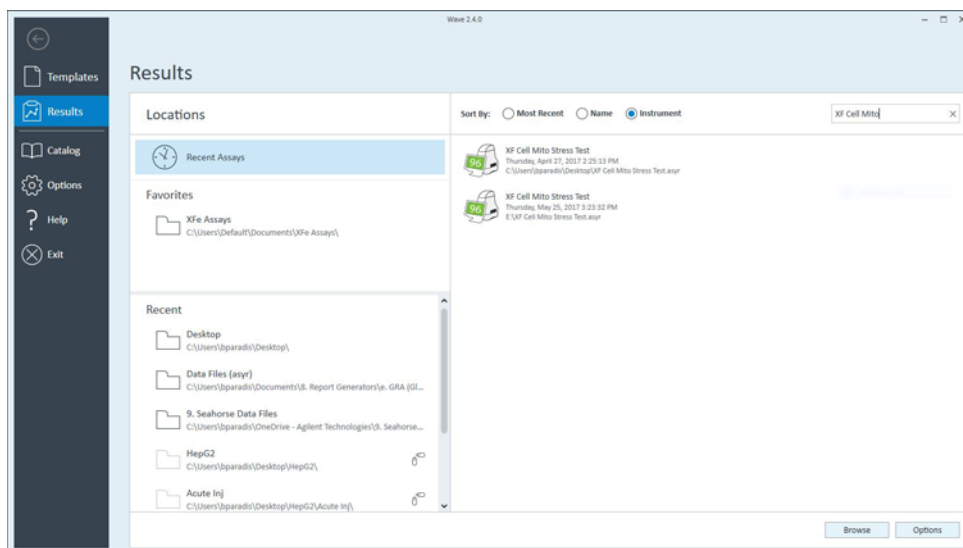
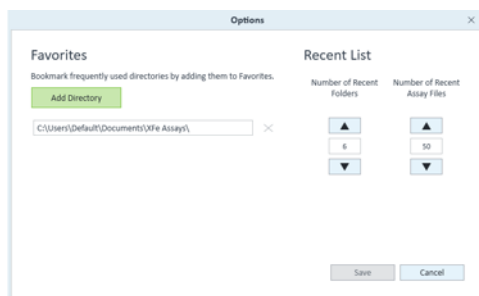

Figure 95 Results view
Figure 97 Number options for results view
The Results view, Figure 95, displays recently opened assay result files, the corresponding file directory where each assay result file is located, and Favorite Places. Opening a new assay result file displays the default analysis view, the Quick View. After modifying and saving an assay result file, Wave automatically displays the last modified analysis view the next time the assay result file is opened.
- **Recent Assays** displays a sortable and searchable list of recently viewed and analyzed assay result files. (See Figure 95 on page 90.)
Click **Options**, next to **Browse** in Figure 95 on page 90, to add Favorite Places (from local or network directory locations) or configure the number of **Recent Folders** and **Recent Assay Files** to display on the Results view. (See Figure 97.)
To manually open an assay template or assay result file, click **Browse**. (See Figure 95 on page 90.)